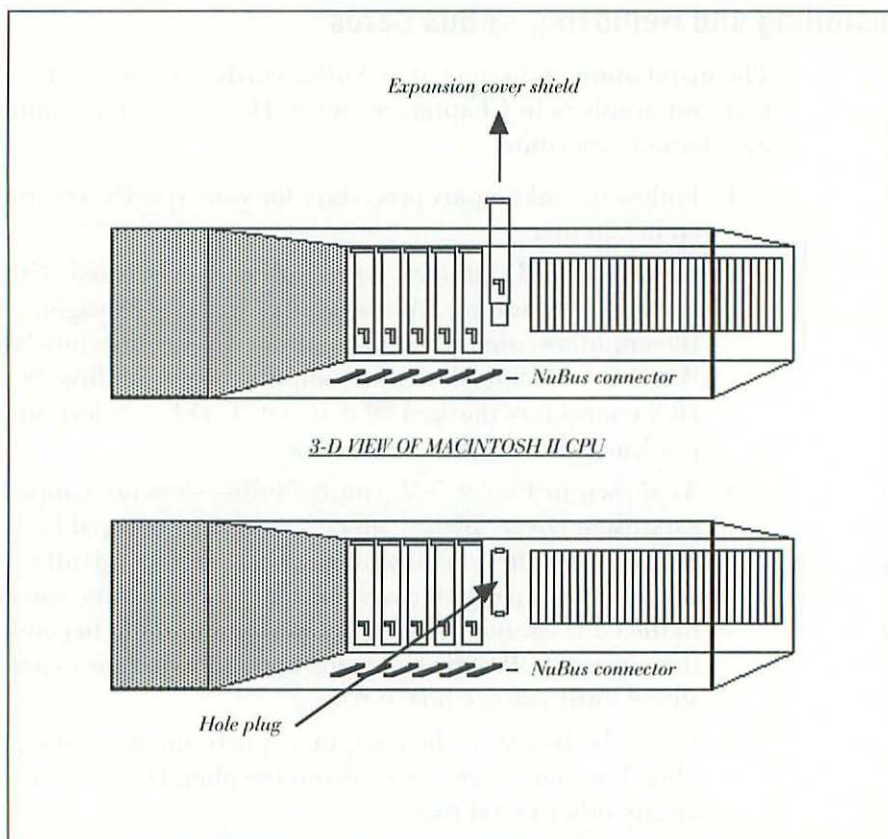

Figure 7-2 Empty NuBus slots are capped by metal expansion cover shields, which are in turn covered by plastic hole plugs.
3. As shown in Figure 7-2, empty NuBus slots are capped by metal expansion cover shields, which are in turn covered by plastic hole plugs. From the top edge of the CPU cabinet, gently pull up the slot's metal expansion cover shield. Notice how the shield connects to the CPU cabinet. The expansion card is going to connect exactly the same way. Practice inserting and removing the expansion cover shield until you see how it works.